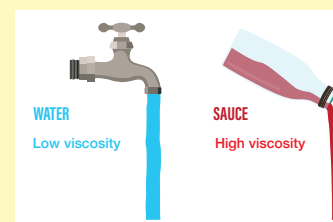

Figure 3
6. Which of the following statements describes Figure 3?
- ii. The melt index (MI) measures how easily melted plastics flow